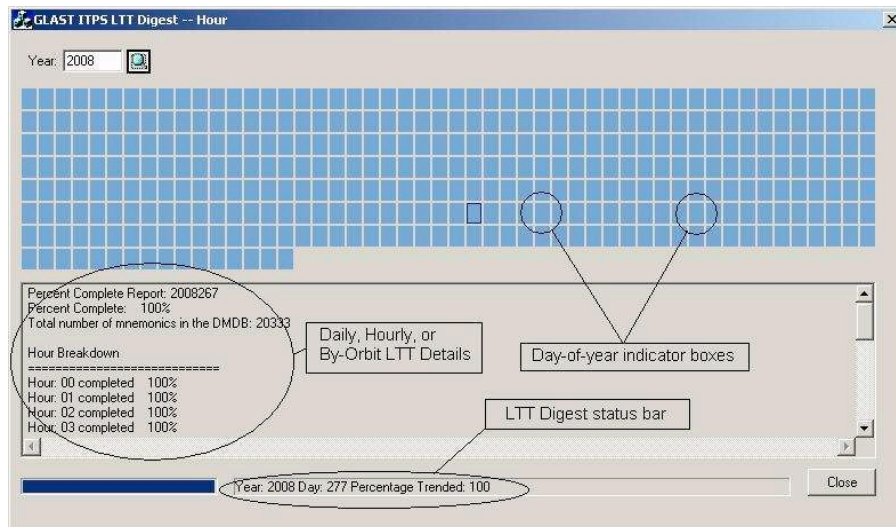

Figure 60 LTT Digest Window
- Move the mouse over the day-of-year indicator boxes to see the percentage completion data in the LTT Digest status bar window (*Figure 60*).